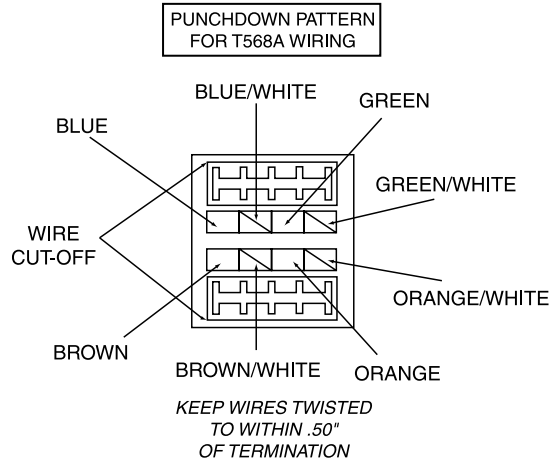

Figure 3
- 3) Maintain cable identification throughout to easily identify outlets to be networked. For RJ45 Modular Connector Assemblies, position pairs over color-coded slots as per *Figure 3*.